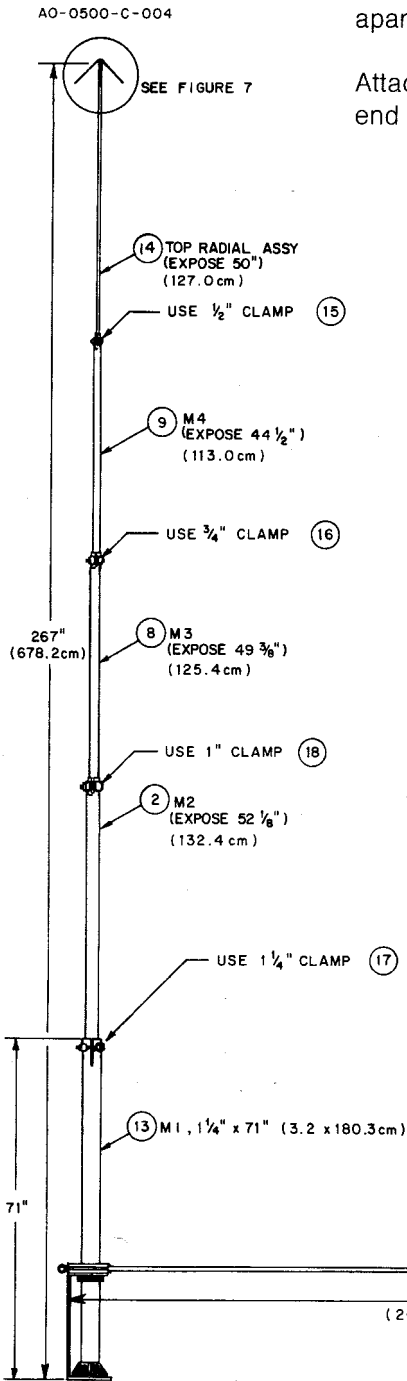

**Figure 5**
**NOTE:** The slot in the compression clamp should be aligned with the slot in the tubing (see Figure 5).